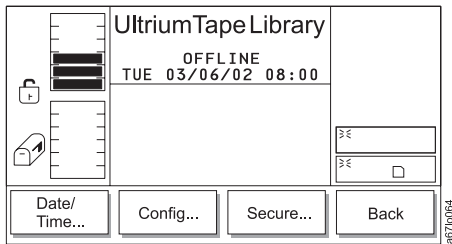

Figure 4-111. Utils Submenu
2. Press the button below the **Utils** softkey. The Utils Dialog displays (see Figure 4-111).
5. Verify that the new settings are correct on the display, then press the button below the **OK** softkey to accept the new date and time. The Utils Submenu redisplay (see Figure 4-111 on page 4-69).